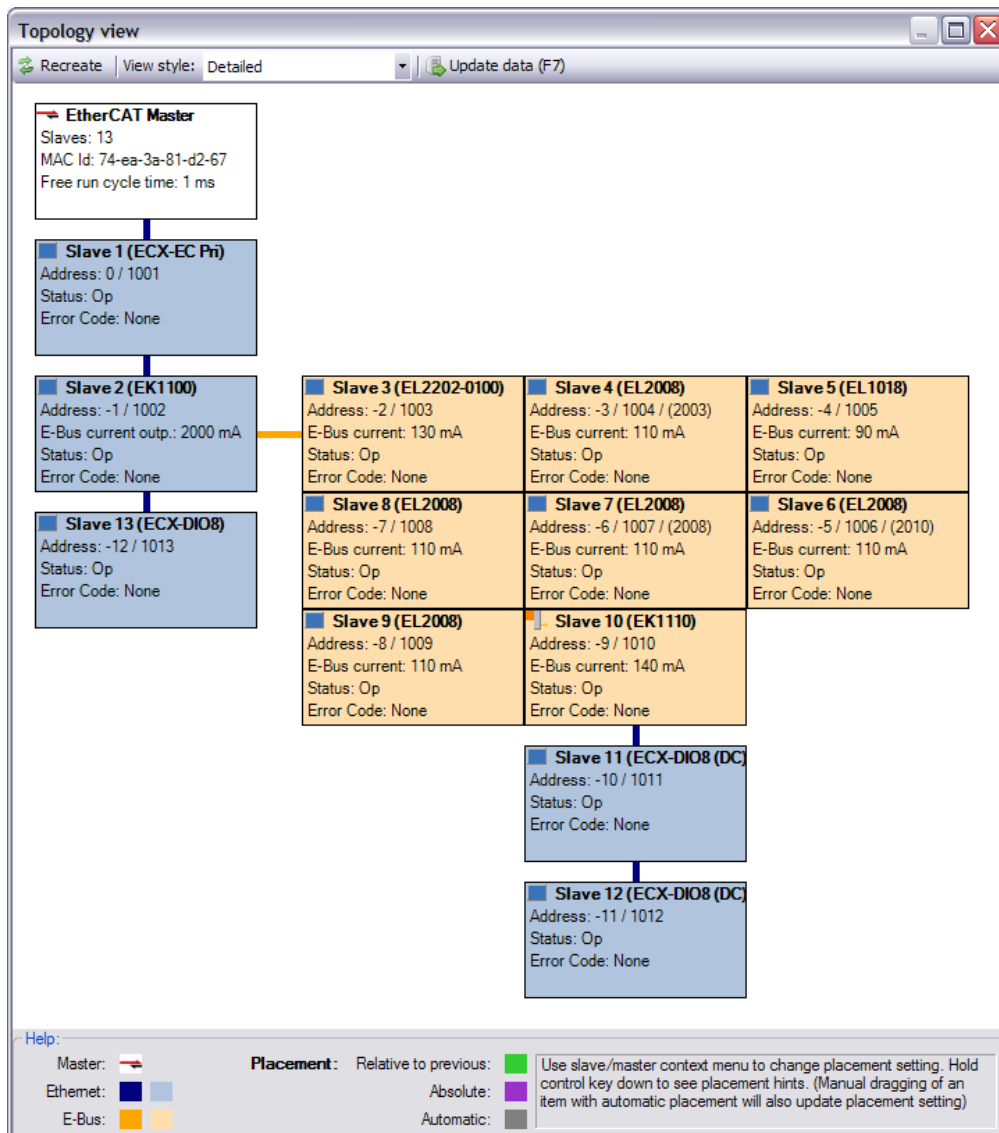

Fig. 28: Topology, view style "Detailed"
To customize the automatic layout each item (master or slave) has a placement setting (accessible by its context menu) and can be moved manually with the mouse. (This was done for Fig. 28)
- “Detailed”: Large text boxes with some general information within, see Fig. 28